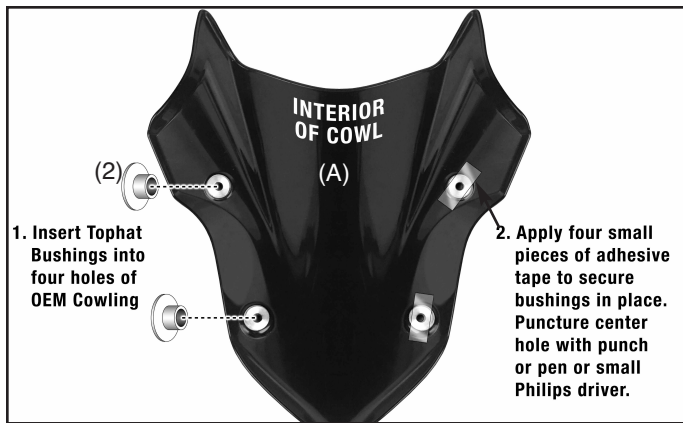

Figure 1
1. To the **interior** of the OEM cowl (A), insert a Bushing (2) into each hole. **Figure 1**
2. Apply a small amount of tape over Bushing. Puncture a hole into tape. **(Tape and Sharp Tool) Figure 1**